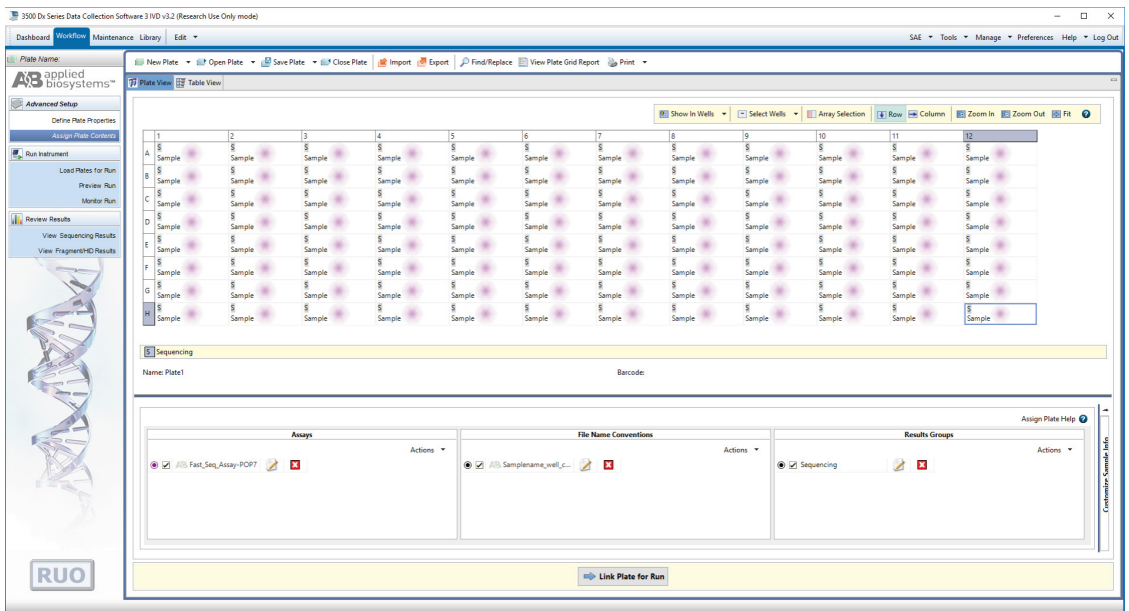

Figure 26. Assigning plate contents.
- e. In the lower left portion of the screen (Figure 26), under Assays, use the Add from Library option to choose the desired Assay. Select the **Add to Plate** button, and close the window.